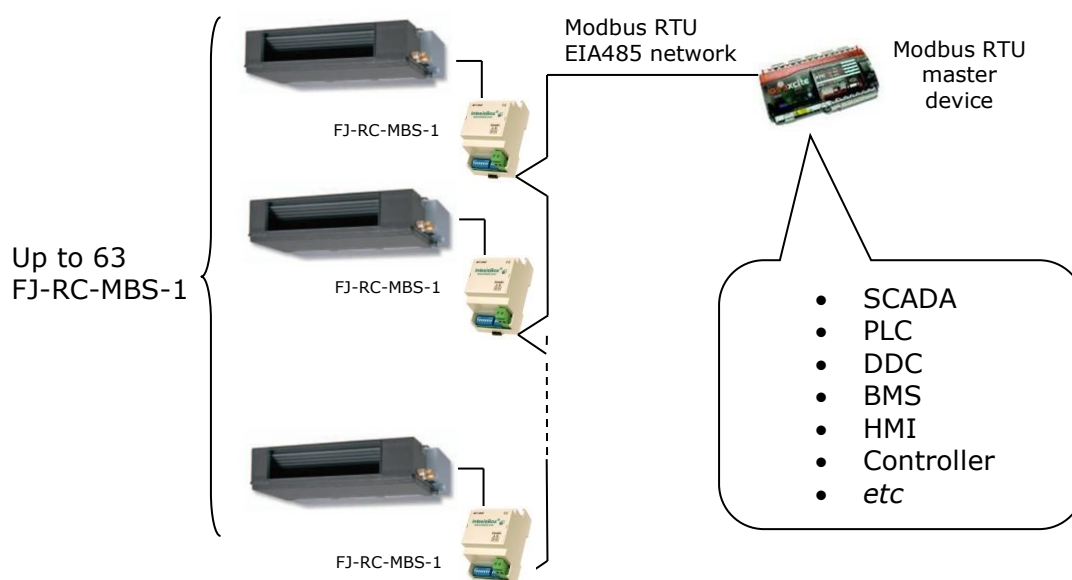

Figure 1.1 FJ-RC-MBS-1 Connection capabilities
- Direct connection to Modbus RTU (EIA485) networks. Up to 63 FJ-RC-MBS-1 devices can be connected in the same network (See Figure 1.1).